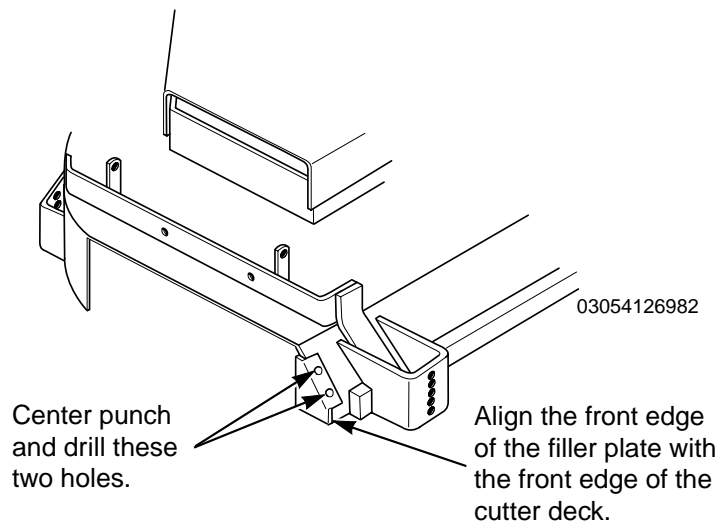

Figure 1. Filler Plate Installation
8. Hold the filler plate (item 15) to the front of the cutter deck as shown in figure 1. Center punch the two hole locations in the cutter deck. Drill the holes at the marked locations using a 1/8" drill bit, then finish drilling using a 9/32" drill bit.
9. Install the deck filler plate to the inside front of the Advantage deck using (2) 1/4-20 x 3/4" bolts and (2) 1/4-20 elastic stop nuts.